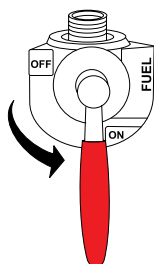

Figure 11. Fuel Tank ON/OFF Valve (ON)
3. Place the fuel tank ON/OFF valve (Figure 11) in the **ON** position.